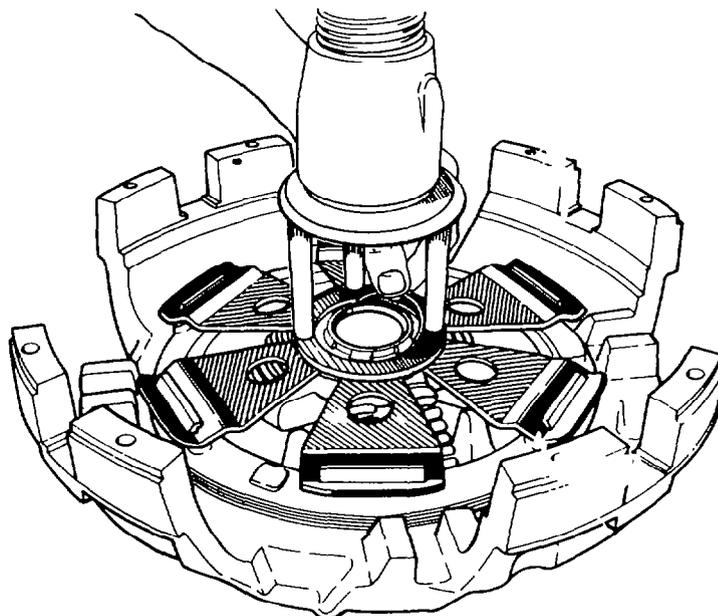

Fig. 163 — Removing Half-ring Locking Washers
h. Compress the retainer and springs until the drive lugs bottom on the clutch housing then remove the wooden blocks from between the release bearing and clutch housing. Remove the half-ring locking washers (see fig. 163).